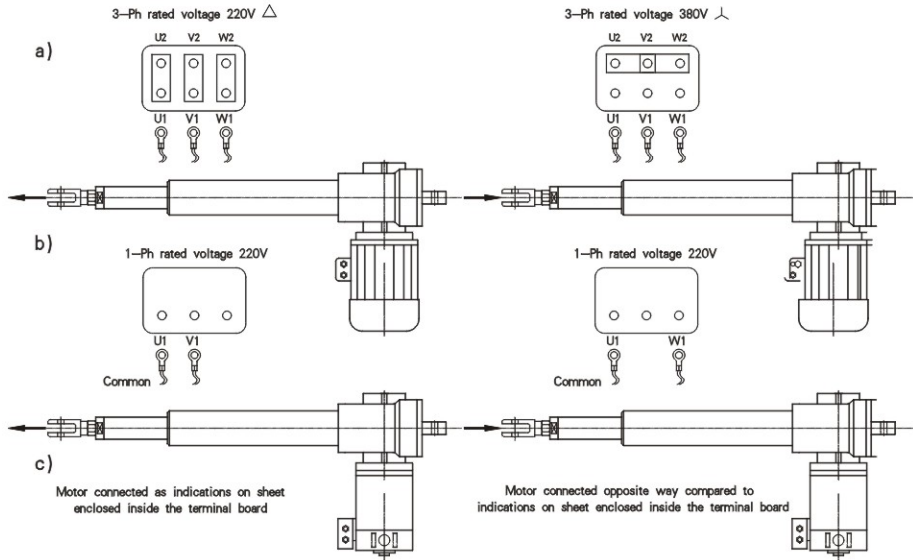
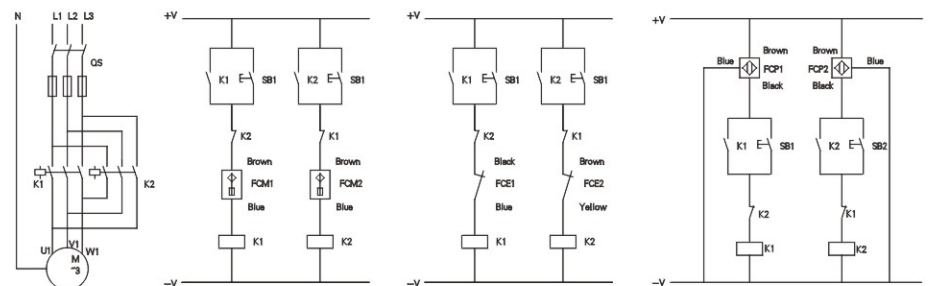

Fig.1.3 Connection of electric asynchronous motor in terminal board
Fig.1.7
1.2.1 Connect the stroke limit device (if present) and the electric motor to the control unit of the plant (see Fig.1.7). The electric connections of the motor into the terminal board have to be carried out following the precautions indicated by manufacturers (see Fig. 1.3). For actuators with DC motor or AC singlephase motor, it is possible to fix the shifting direction immediately.
To the actuator, the devices we manufacture to be applied are three types, control circuit see fig.1.7.
- a) Actuator with three-phase motor: invert any wire pair (U1↔V1, or U1↔W1, or V1↔W1) into the terminal board, see Fig. 1.3 a
- b) Actuator with single-phase motor: change the contact V1↔W1, see Fig. 1.3 b